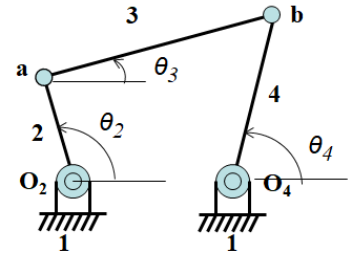

Fig.3. Four-bar linkage
3. Fig. 3 show a four-bar linkage. For the mechanism, if $r_1=180\text{cm}$, $r_2=100\text{cm}$, $r_3=150\text{cm}$, and $r_4=200\text{cm}$, (a) write down the vector loop equation, (b) if $\theta_2=60^\circ$ and $\omega_2=2400\text{rpm}$, please find the values of θ_3 , θ_4 , and transmission angle μ , (c) if $\omega_2=2400\text{rpm}$, please find the values of ω_3 and ω_4 . (20%)